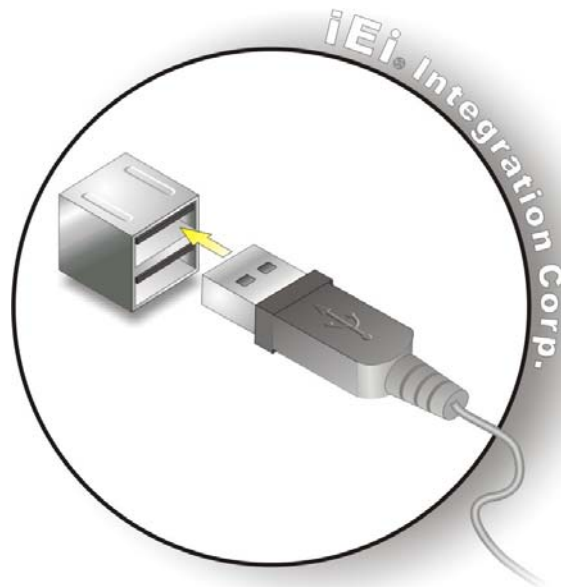

Figure 3-18: USB Connector
Step 2: Insert a USB Series "A" plug. Insert the USB Series "A" plug of a device into the USB Series "A" receptacle on the external peripheral interface. See **Figure 3-18**.